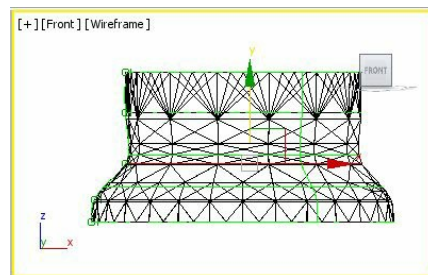

Figure 10-91 The NURBS curves modified in the Front viewport
7. Select the **Curve** sub-object level. In the Front viewport, modify the NURBS curves using the **Select and Move** and **Select and Uniform Scale** tools, as shown in Figure 10-91.